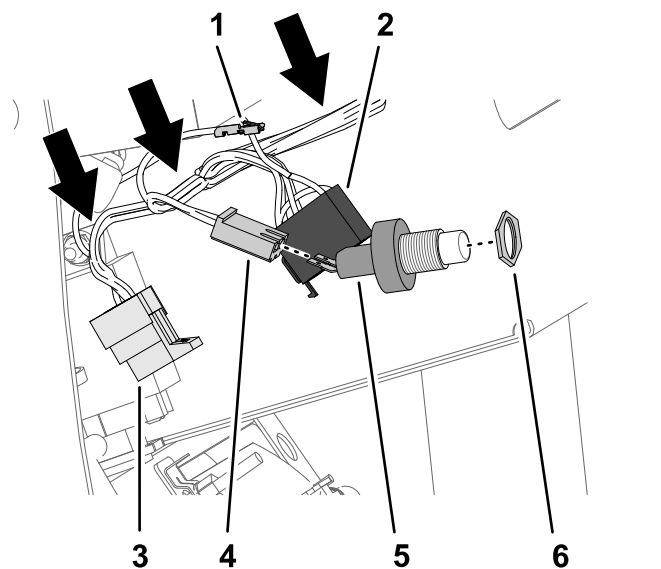

Figure 25
2. Access the 3 connectors at the end of the 108 cm (42-1/2 inches) branch of the kit wire harness (Figure 25).
3. Thread the jam nut (5/8 inch) onto the threads of the horn switch (Figure 25).
4. Plug the 2 spade terminals of the horn switch into the 2-socket connector of the 108 cm (42-1/2 inches) branch of the kit wire harness (Figure 25).